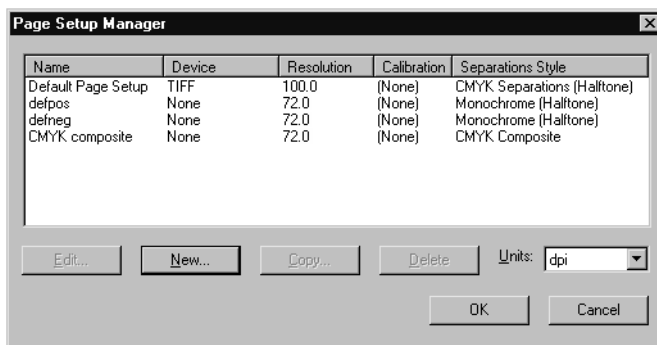

Figure 3.1 Page Setup Manager dialog box
2. In the Page Setup Manager, as shown in Figure 3.1, select a page setup. `Default Page Setup` is a safe choice: select it and click **Edit** to display the Edit Page Setup dialog box. If you want to create a new page setup, the easiest way is to copy the `Default Page Setup`. Select `Default Page Setup` and click **Copy** to display the New Page Setup dialog box.